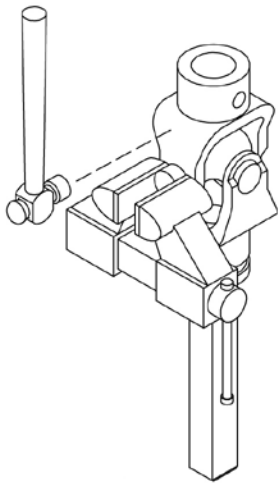

Figure 21. Remove Cups
3. Clamp cup in vise as shown in Figure 21 and tap on yoke to completely remove cup from yoke. Repeat Step 2 and Step 3 for opposite cup.